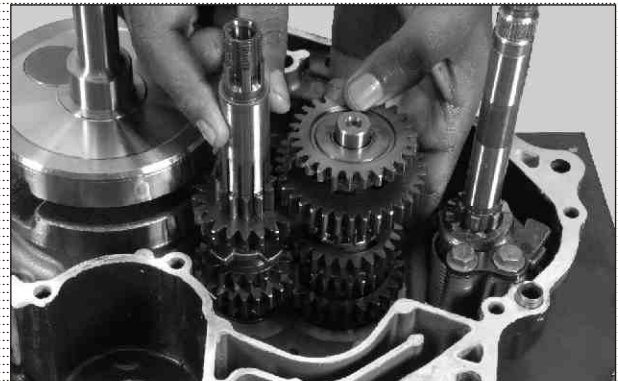

Fig. 3.178
- Assemble shaft complete counter and shaft complete drive together as an assembly in the crankcase assembly L along with gear complete kick starter idle. (Fig. 3.178)